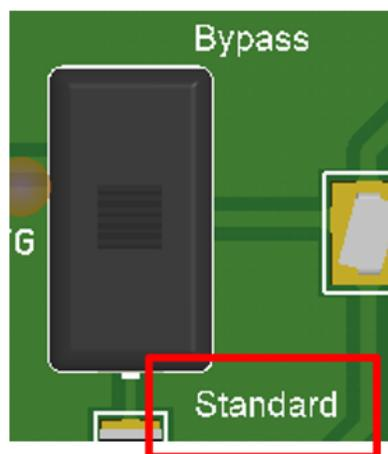

Figure 39. Bypass vs Standard = 'Standard'
- Set this switch to “Standard” (the “Bypass” setting is for designs that did not use TI’s programming board for the solution) as shown in Figure 39